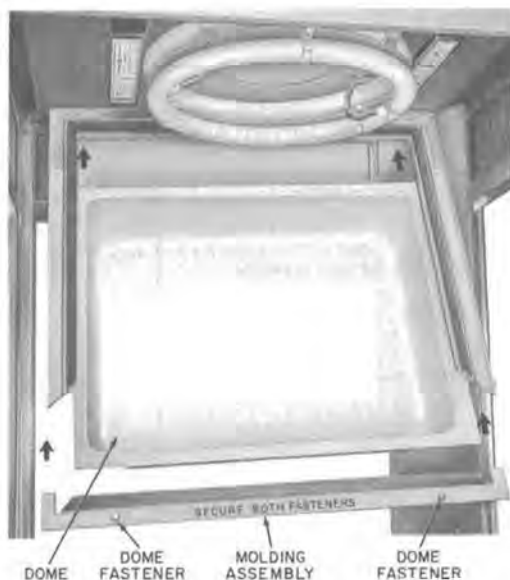

Fig. 31—Installation of Dome
- (1) Unlock dome fasteners and lower dome.
- (2) Remove machine screws and molding assembly.
- (3) Remove defective dome and insert replacement as shown in Fig. 31.
- (4) Replace and secure molding assembly.
- (5) Raise dome and secure in position by locking dome fasteners.